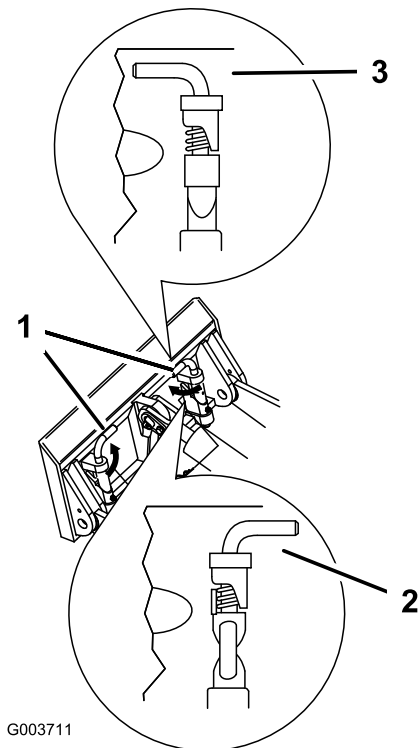

Figure 19
7. Engage the quick attach pins, ensuring that they are fully seated in the mount plate (Figure 19).